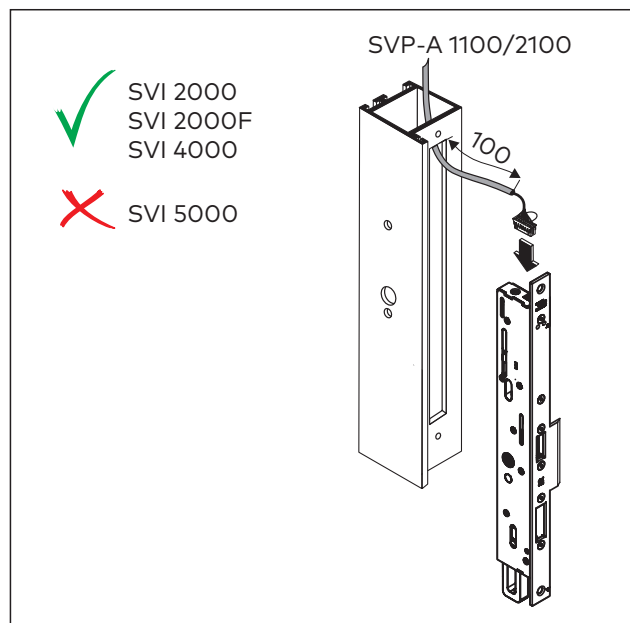

Fig. 32 Connect cable
3. Pull in the connecting cable SVP-A 1100/2100 and connect it to the lock (Abb. 32).